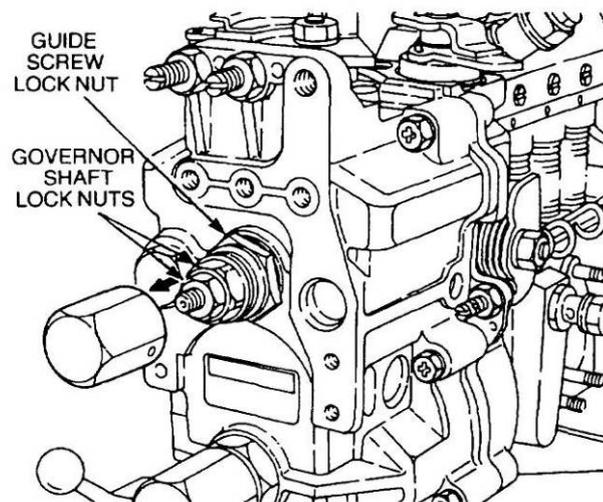

Figure 86 Governor Shaft Cap-nut and Locknuts
- i. Remove the cap-nut and gasket from the governor shaft (Figure 86), with two spanners (13 and 19 mm) remove the two locknuts from the governor shaft and slacken the guide screw locknut (27 mm) with a suitable spanner.